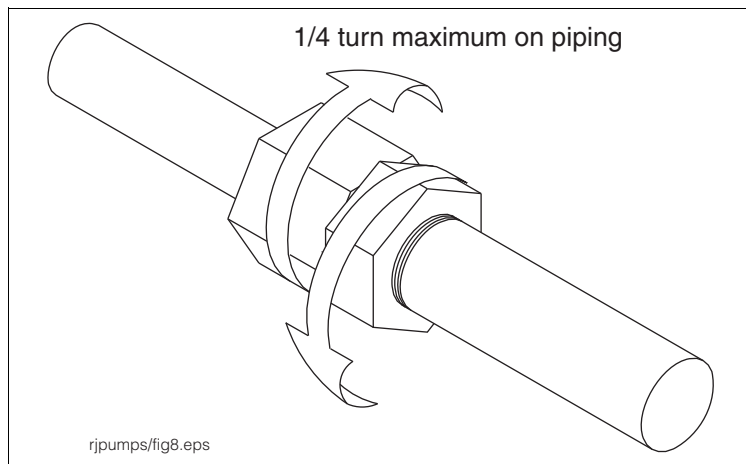

Figure 10. Loosening Locking Nut
4. Loosen the clinch assembly starting by unscrewing the set screw in the side of locking nut, then backing off the locking nut (see Figure 10). A slight twisting of the UMP will loosen the seals and facilitate adjusting it to the correct length.